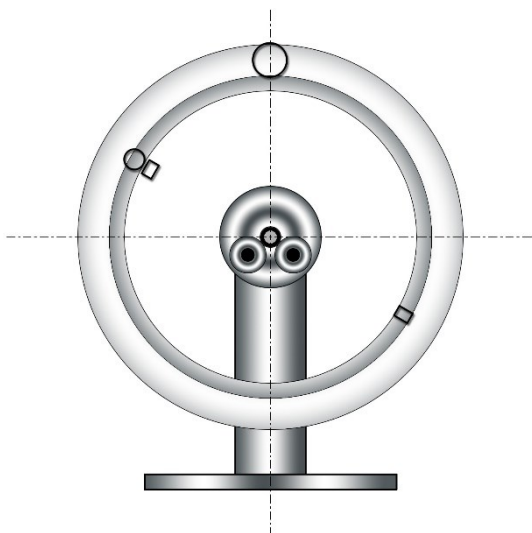

Figure 3: Resting position neutral rim with mounted tyre
- Pull the tyre onto the neutral rim and let it swing out. The lightest place is now pointing upwards again (see Fig. 3). Mark this spot in a different colour.